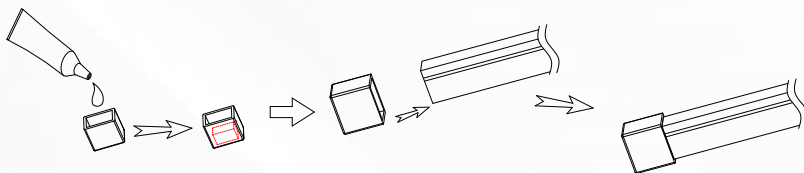

Figure 4
2. The plug will be filled with glue, and put the neon flex into the plug, the installation is complete, as shown in Figure 4.
5. Put the plug encased into the line, and repeat Figure 4 gluing steps, and then insert the neon flex into the plug, the installation is complete, as shown in Figure 7.